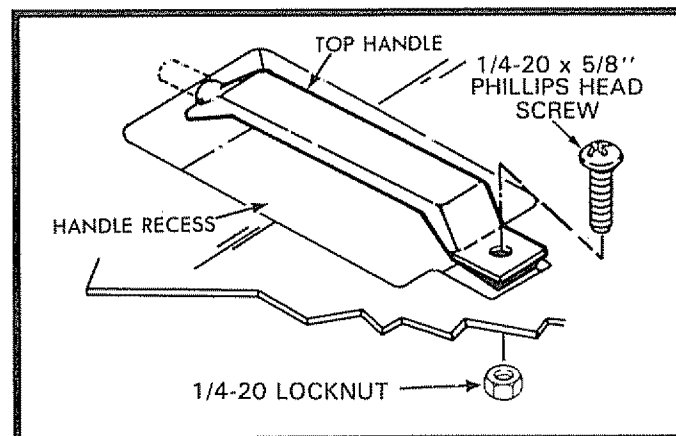

FIG. 3
- Position round end of top handle into hole at rear of handle recess (See Fig. 3). The flat end of top handle will fit into the square pocket at front of handle recess. Put the 1/4-20 x 5/8 screw through the handle and catcher top, and install 1/4-20 locknut (See Fig. 3).
- Use a medium phillips screwdriver to tighten screw while holding the locknut with an adjustable or 7/16 wrench (See Fig. 3).